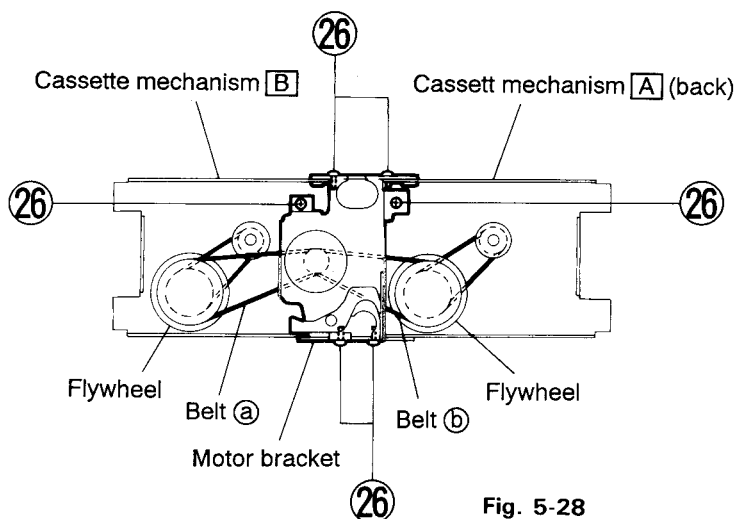

Fig. 5-28
■ How to Remove the Motor Pulley Ass'y (Refer to Figs. 5-28 ~ 5-30).
6. After turning over the cassette mechanism ass'y, remove the six screws (26) retaining the motor bracket.
9. Remove the three screws (27) retaining the motor pulley ass'y.